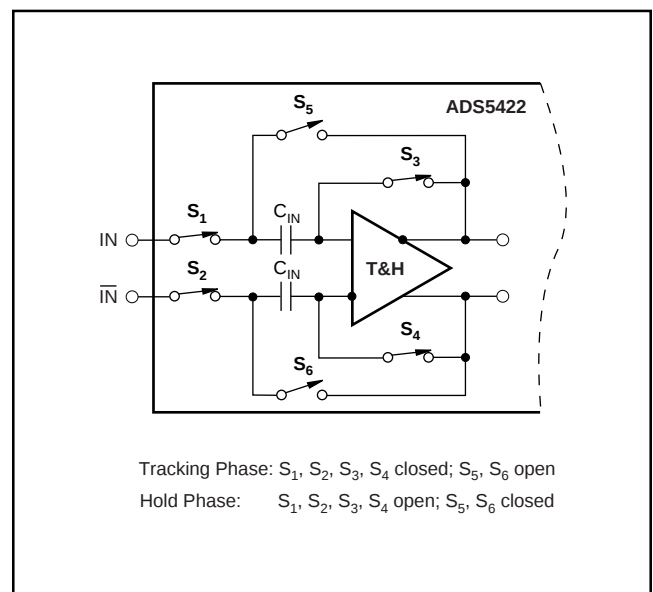
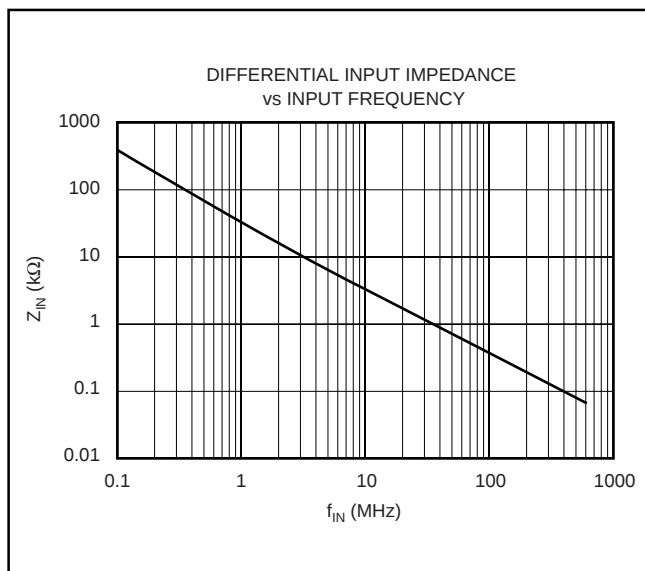

FIGURE 1. Simplified Circuit of Input Track-and-Hold Amplifier.
FIGURE 2. Differential Input Impedance versus Input Frequency.
The analog input of the ADS5422 consists of a differential track-and-hold circuit, as shown in Figure 1. The differential topology produces a high level of AC performance at high sampling rates. It also results in a very high usable input bandwidth—especially important for Intermediate Frequency (IF) or undersampling applications. Both inputs (IN, $\overline{\text{IN}}$) require external biasing up to a common-mode voltage that is typically at the mid-supply level ($+V_S/2$). This is because the on-resistance of the CMOS switches is lowest at this voltage, minimizing the effects of the signal-dependent, nonlinearity of R_{ON} . The track-and-hold circuit can also convert a single-ended input signal into a fully differential signal for the quantizer. For ease of use, the ADS5422 incorporates a selectable voltage reference, a versatile clock input and a logic output driver designed to interface to 3V or 5V logic.
The input of the ADS5422 is capacitive, and the driving source needs to provide the slew current to charge or discharge the input sampling capacitor while the track-and-hold amplifier is in track mode (see Figure 1). This effectively results in a dynamic input impedance that is a function of the sampling frequency. Figure 2 depicts the differential input impedance of the ADS5422 as a function of the input frequency.